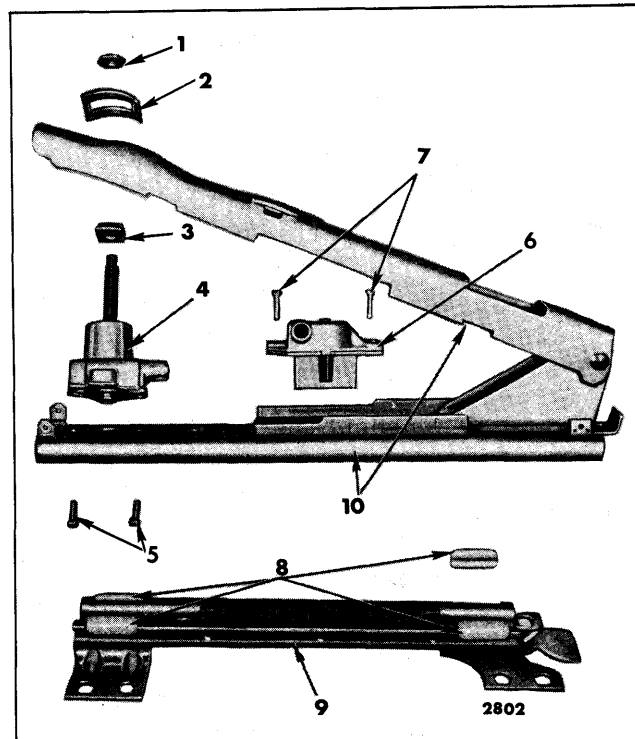

Fig. 15-12—Four-Way Seat Adjuster Components -
3. Raise upper portion of lower channel. Remove screws securing horizontal actuator assembly to adjuster lower track; then, remove actuator from adjuster assembly (Fig. 15-12).